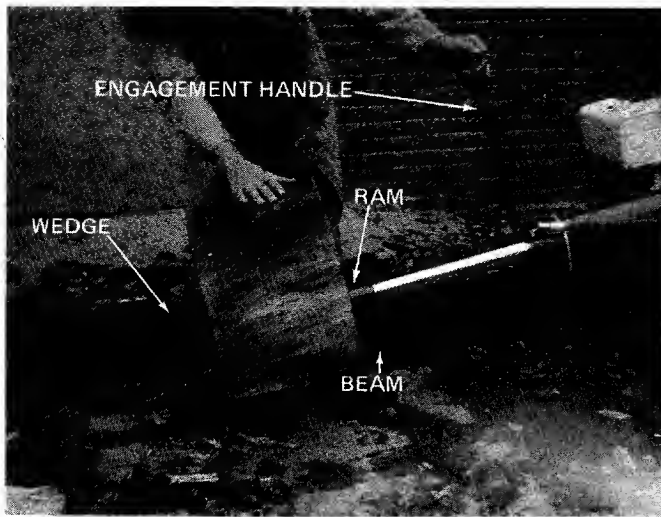

FIGURE 22
- D. Place log on beam and hold in place with right hand. See figure 22.